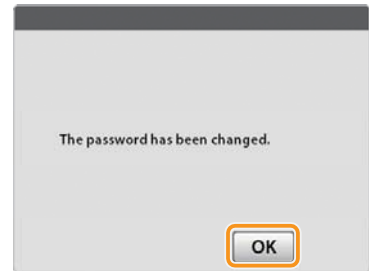

Figure 3-65
5. Tap [OK] after confirming the message displayed. (Figure 3-65)